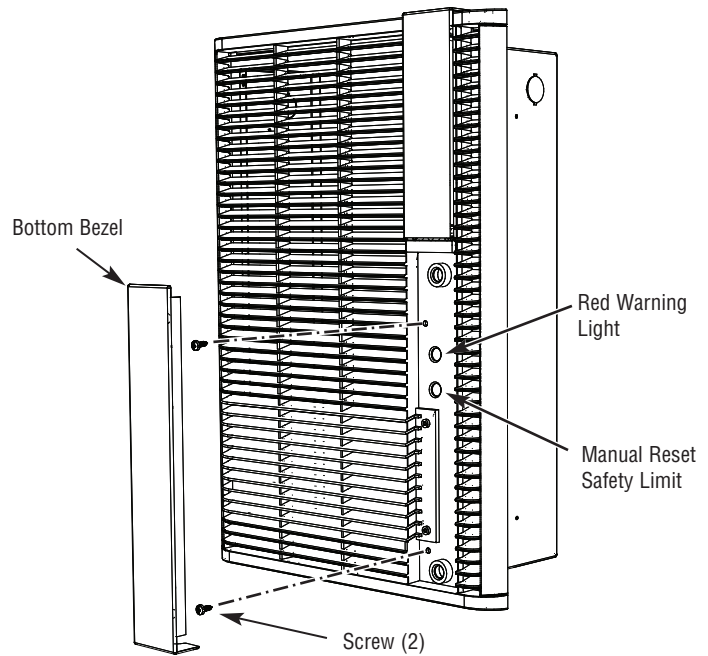

Figure 5- Grille Screw Locations
4. There are two holes in the bottom bezel area of the grille that align with two holes in the heater assembly. Insert the two screws in these holes and tighten (Figure 5).
This heater is equipped with a manual-reset safety limit control that will automatically turn off the heater if it overheats to prevent a fire. A red warning light will illuminate to alert that this control had activated. See Figure 5 for the location of these devices.
TO RESET SAFETY LIMIT (SEE FIGURE 5)